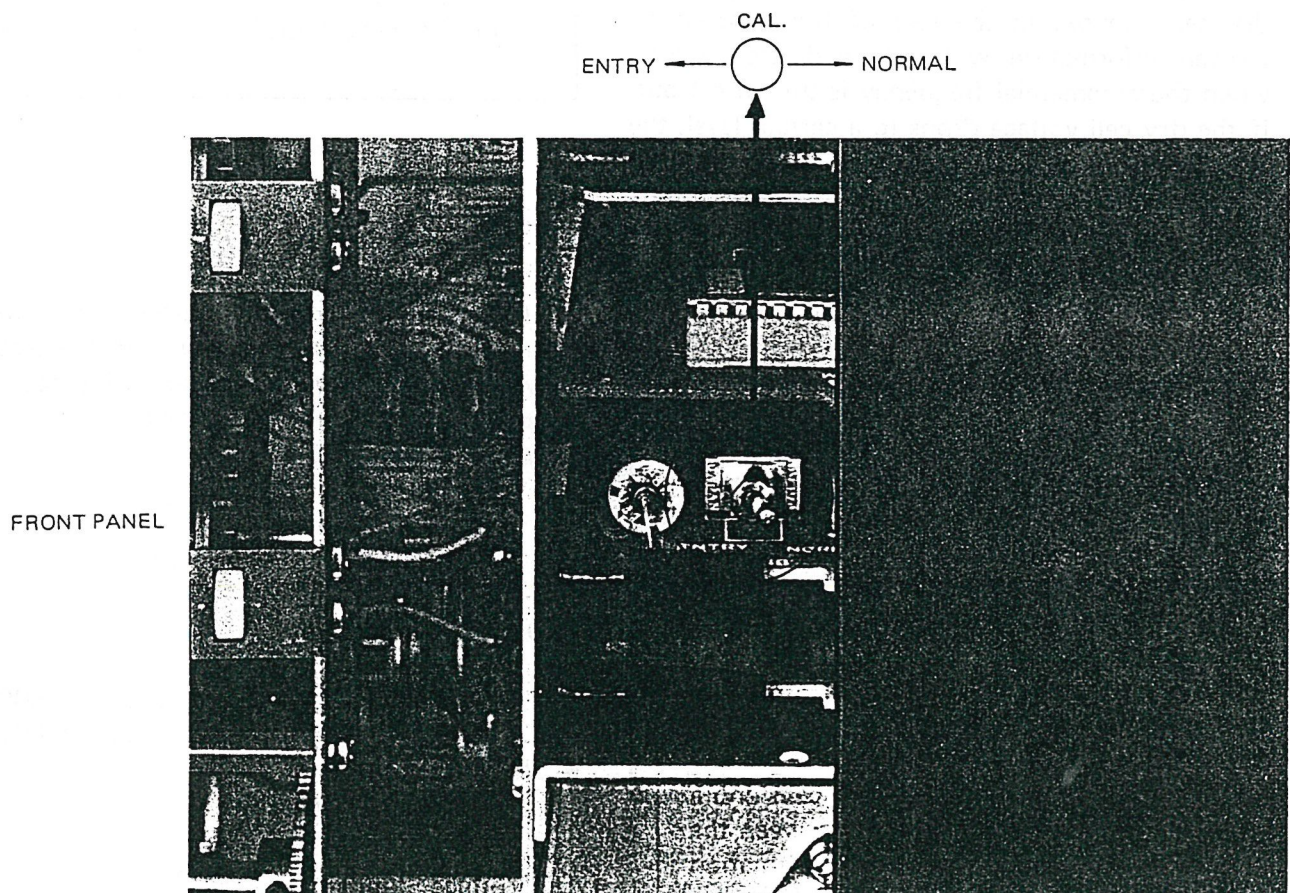

Figure 5-1. Mode Selector on CPU Card.
- b) After a four hour warmup, remove two screws from the bottom rear and loosen two lock screws on the front panel by rotating them counterclockwise. With the instrument kept energized, draw out the internal instrument from the case until the mode selector on the CPU card can be operated as shown in Figure 5-1.
- Set the mode selector SW1 on the CPU card shown in Figure 5-1 to CAL.